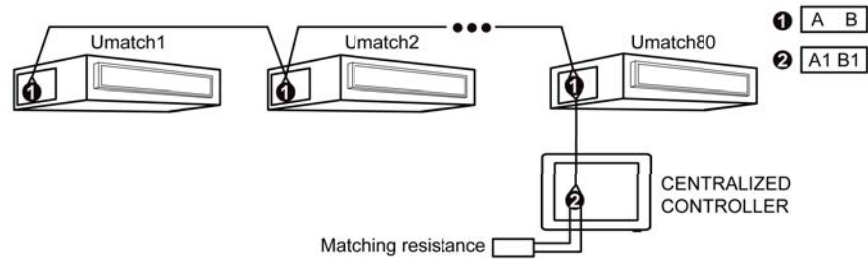
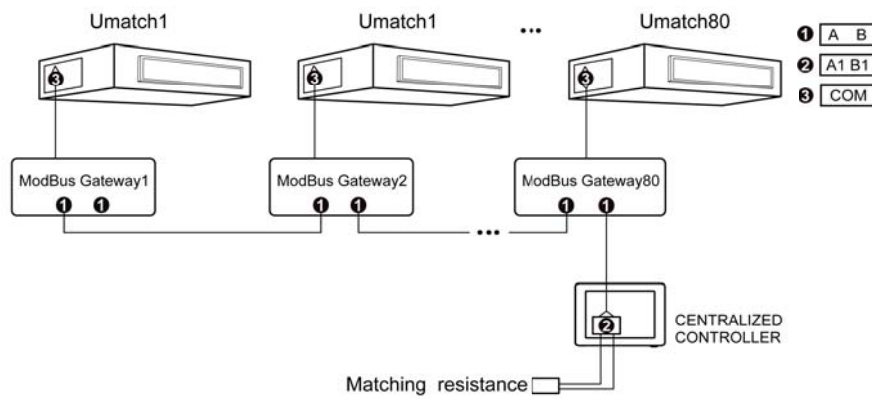
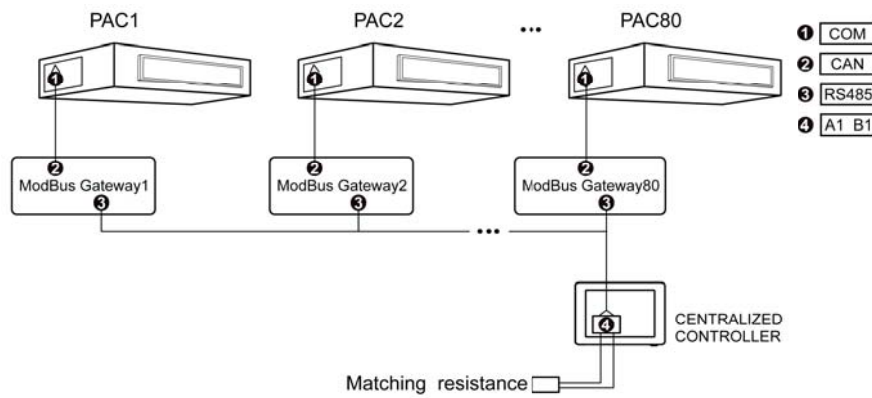

Fig. 3.7 Centralized controller connects to network of U-Match unit (with Modbus interface)
Fig. 3.8 Centralized controller connects to network of U-Match unit (needs to add Modbus gateway)
Fig. 3.9 Centralized controller connects to network of PAC unit
- (1) The units controlled by one centralized controller should not exceed 80 sets.
- (2) When the centralized controller is connected to the U-Match unit network with COM_BMS(Modbus) interface, connect the network as shown in Fig. 3.7, otherwise connect the network as shown in Fig. 3.8. The A1 and B1 interfaces of the centralized controller and the unit/gateway A and B interfaces need to be connected one by one; when the centralized controller is connected to the PAC unit, connect to the network as shown in Fig. 3.9, the PAC unit is connected to the CAN interface of gateway through the COM interface, and the gateway RS485 interface is connected to the A1, B1 interfaces of centralized controller.
- (3) The centralized controller must be connected in series with the indoor unit of the last unit, and connected with matching resistors at the A1 and B1 interfaces together with the communication cable.
- (4) The gateways in Fig. 3.8 and 3.9 need to be purchased separately; and each indoor unit needs a gateway.
- (5) The address of indoor unit of the unit needs to be set in the range of 1-80, and cannot be the same, otherwise it will cause communication failure. The address settings are as follows:
- ① Setting methods for indoor unit address of U-Match unit with 485 communication: